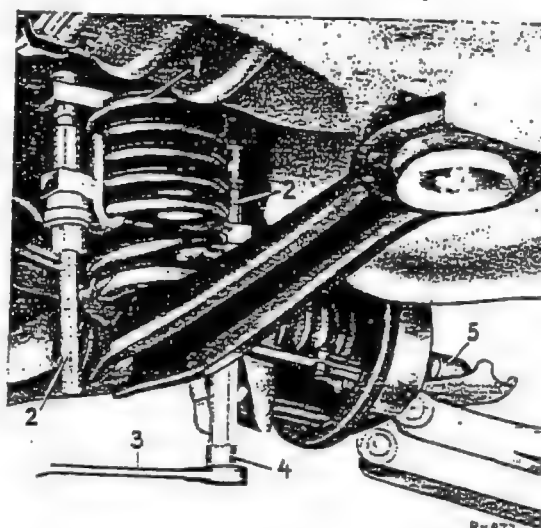

Fig. 32-5/2
3. Install two Spring Tensioners 111 589 04 31 (Fig. 32-5/2). Then raise the axle tube further, taking care to ensure that the car is not lifted off the trestles. Then use the spring tensioners to compress the rear spring a little further.
4. Lower the axle tube with the jack, and remove the upper rubber mounting and the spring together with the spring tensioners (Fig. 32-5/3).